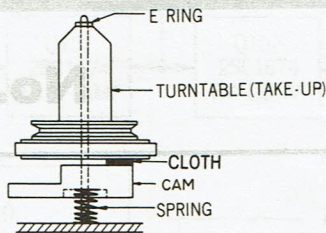
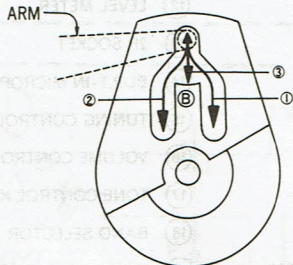
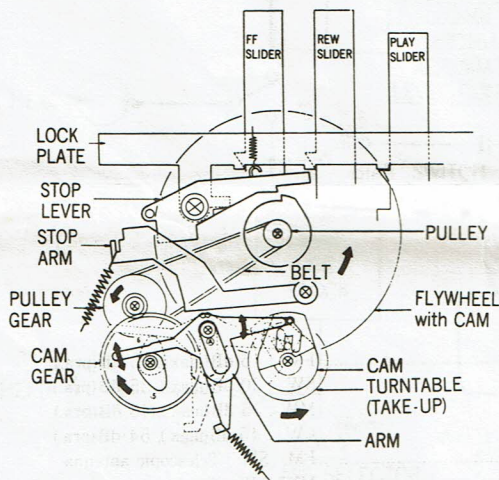
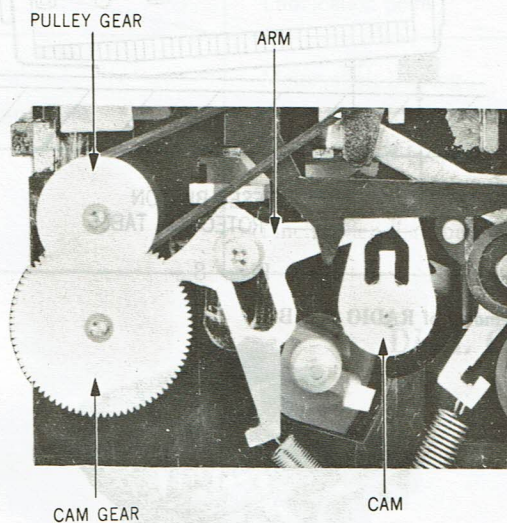

Fig. 1
Fig. 2
Fig. 3
Fig. 5
The operation of this mechanism is controlled by the turntable, cam, arm and flywheels shown in Figs. 1,2 and 3. There is a sliding cloth between the turntable and cam on the rewind side. This cloth is attached to the cam and is made to touch the turntable by a spring under the cam shown in Fig. 1 ; it detects the direction of rotation of the turntable. There are 3 grooves with different functions in this cam as shown in Fig. 2.
- 1) Since the rotation of the turntable stops and the force of this rotation is removed, the cam stops in the condition shown in Fig. 5. (The cam always stops in this position except when the cam section of the cam gear is in the position ⑥ shown in Fig. 3.)
- 2) Tip of the arm slides along groove ③ as shown in Fig. 2. The stroke of the arm when sliding in groove ③ is less than when it is sliding in grooves ① and ② . When the cam gear reaches condition ⑥ as shown in Fig. 3, the cam makes the arm slide in the direction of arrow ③ with point B as fulcrum shown in Fig. 2.
- 3) When the arm slides, its tip causes the stop-arm to slide in the direction of arrow ④ with point C as fulcrum.
- 4) The stop lever slides in the direction of arrow ⑤ with point D as fulcrum.
- 5) In the center of the flywheel there is a convex part which engages with the stop lever when the tape comes to a stop. When the convex part and stop lever engage with each other, the stop lever is slide in the direction of arrow ⑧ by the rotating force of the flywheel.